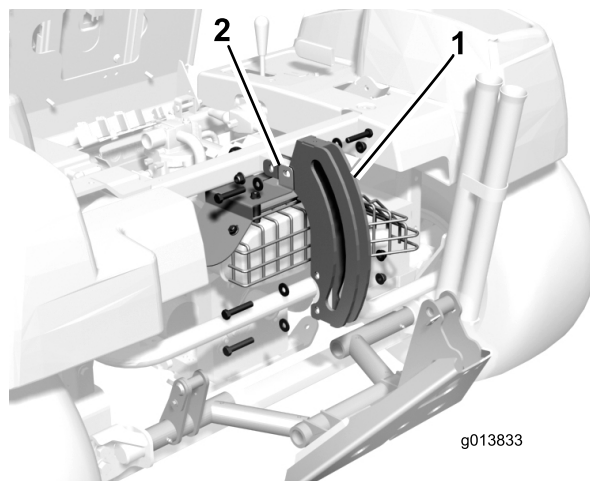

Figure 10
14. Secure the roller plate and the muffler shield mounting tabs to the frame with the (4) bolts, washers and flange nuts previously removed (Figure 10). Tighten all the shield mounting fasteners.